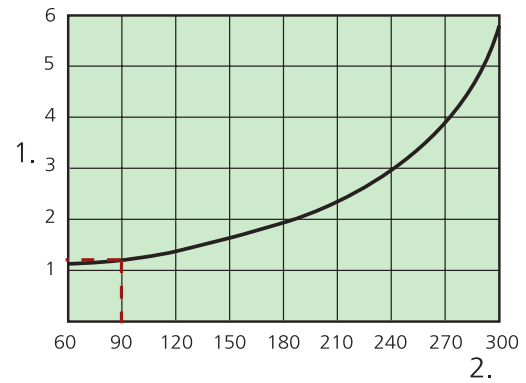

Figure 2. Correction factor for shielding.
- The dB(A) values are for rooms with normal acoustic absorption of 4 dB.
- The dB(C) value is normally 6-9 dB higher than the dB(A) value.
- Correction factor for shielded spread pattern, see graphs and examples below the dimensioning graph. Figure 2.